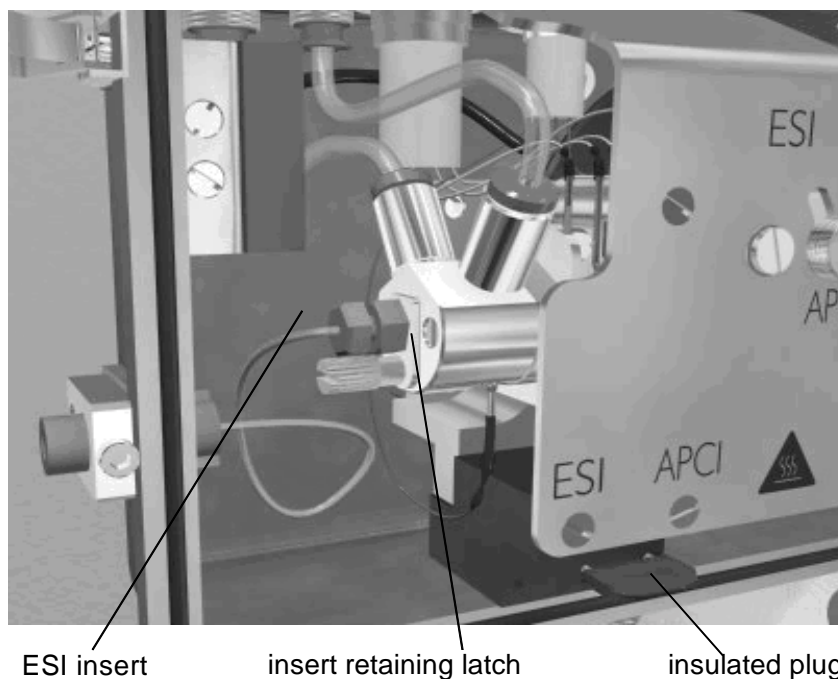

Figure 2-3. Installing the ESI insert and securing with the retaining latch
6. Insert the insulated plug (P/N FM100507) into the ESI position; see Figure 2-3 for identification of the insulated plug.